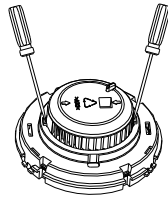

Fig. 6
- a) Open the top cover of detector, and draw out the sensing chamber by slightly lifting its two sides using a straight screwdriver, as shown in Fig 6.